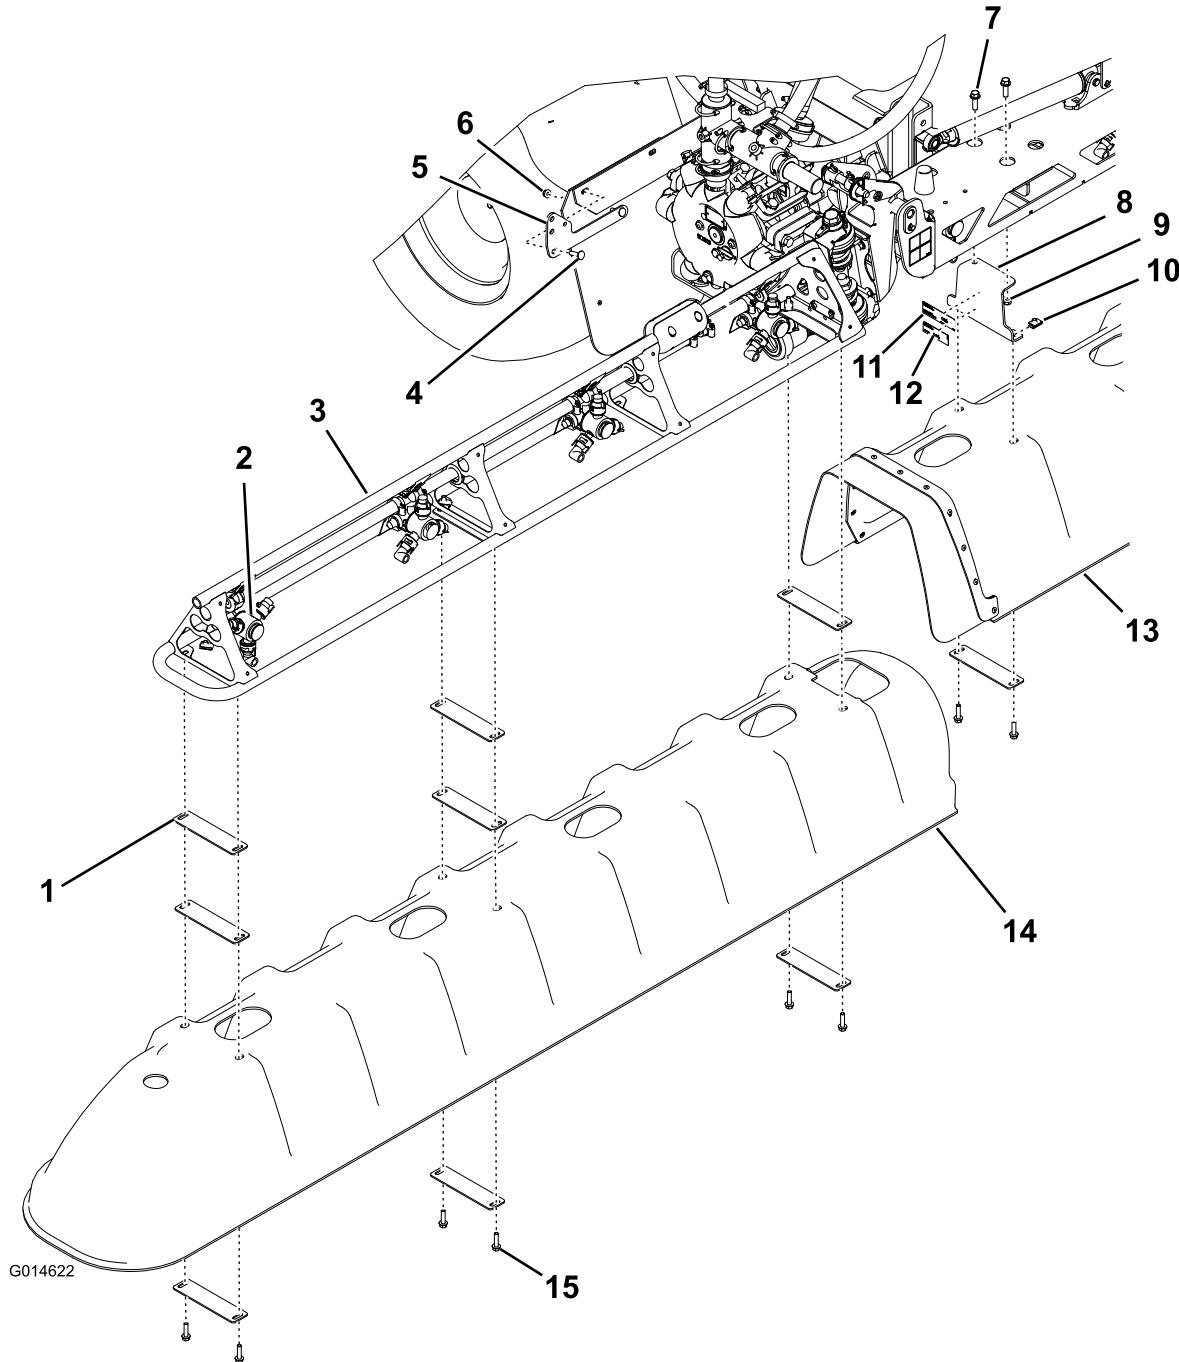

Figure 1
1. Attach the model/serial number decal and the regulatory decal to one of the center boom brackets as shown in Figure 1.
2. Install one of the wing boom covers (Figure 1) using 8 washer plates, 6 hex head screws (5/16 x 1-1/4 inch), and 6 U-nuts.
1. Install the drain valve mount bracket onto the machine with 2 carriage screws and 2 flange nuts (5/16 inch) as shown in Figure 1.
2. Move the drain valve from its existing position and install it onto the mounting bracket (Figure 1) using the existing lynch pin and lanyard.